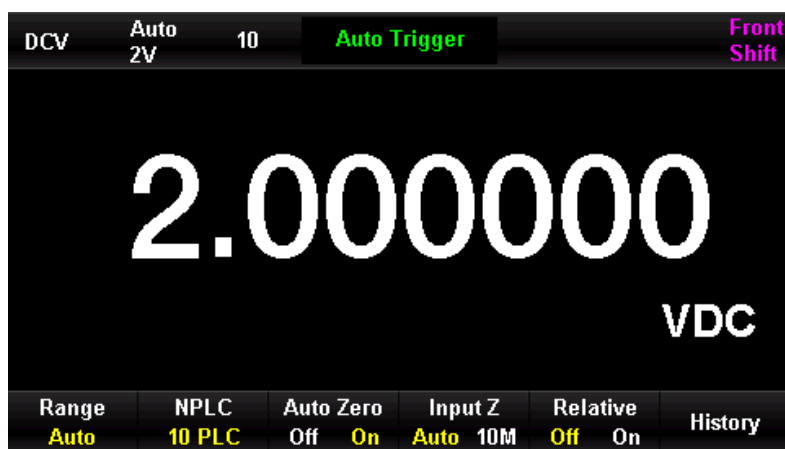

Figure 0-10 DC Voltage Measurement Menu
1. Press the  key to enter the DC voltage measurement menu, as shown in Figure 0-10.